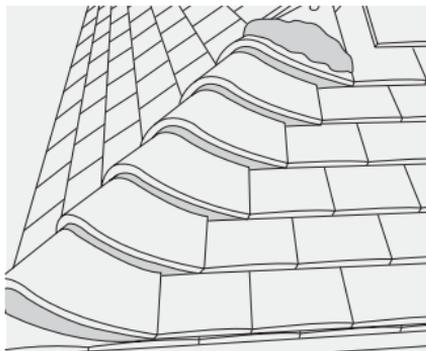

Fig. 17 – Bedded and mechanically fixed bonnet hip tiles
- 4 Straight cut tiles adjacent to each side of bonnet hip to maintain bond and fix with 70mm x 3.35mm aluminium nails (Fig. 17).